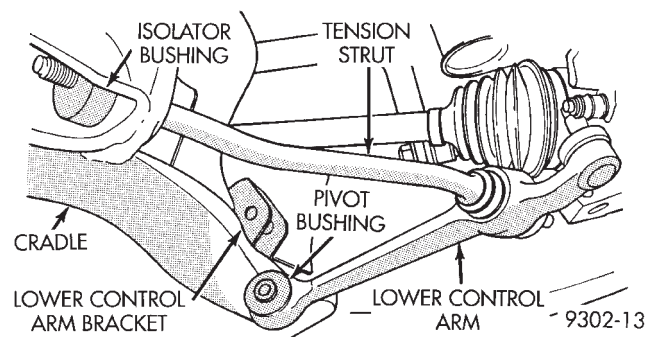

Fig. 32 Lower Control Arm Remove/Install
(7) Separate lower control arm and tension strut from the cradle as an assembly. Lower control arm is removed from cradle, by first removing pivot bushing from cradle and then sliding tension strut out of isolator bushing (Fig. 32).
(1) Install the lower control arm on the cradle using the following sequence. Install tension strut and isolator bushing into cradle first, then install lower control arm pivot bushing into bracket on cradle (Fig. 32).